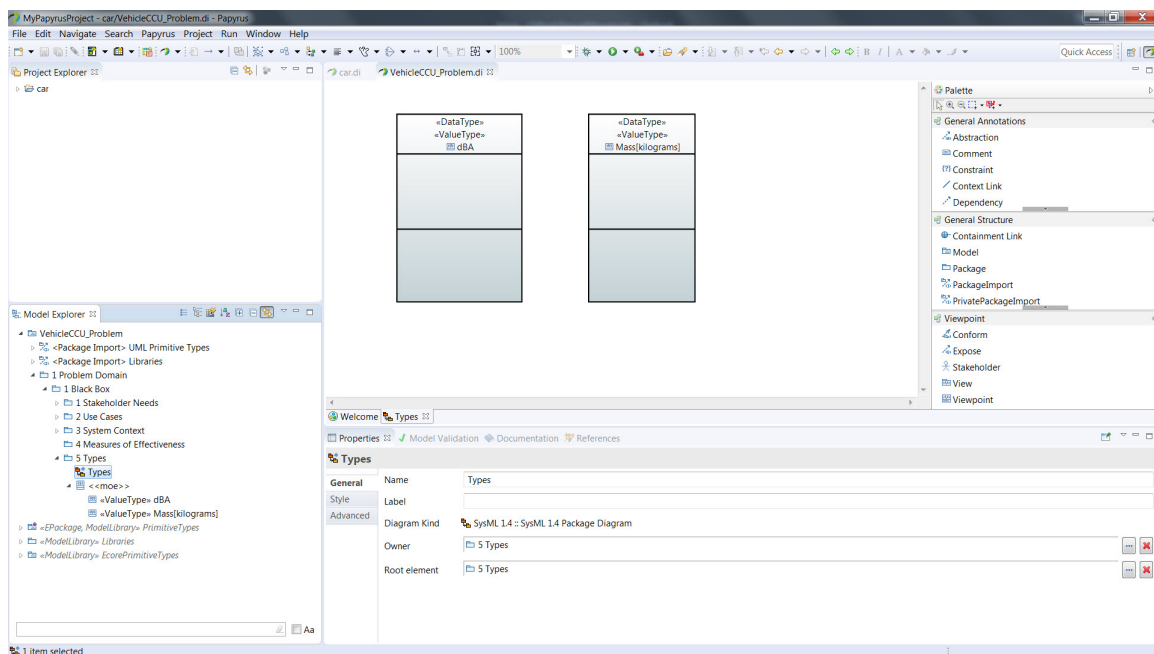

Figure 77: Value Types in Package Diagram.
- Now Click and Drag the *dBA* value type from the *Model Explorer* window to the *Types* package diagram in the main window. Do the same with the *Mass[kilograms]* value type. Your screen should now look like (figure 77).